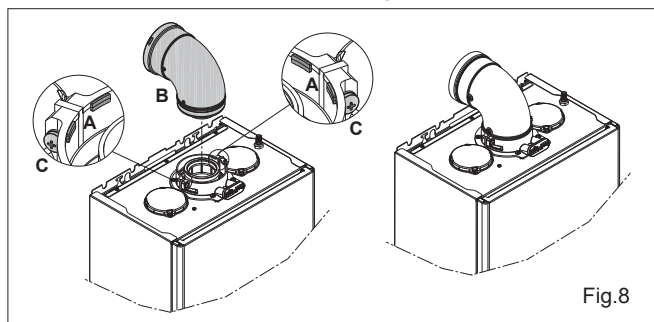
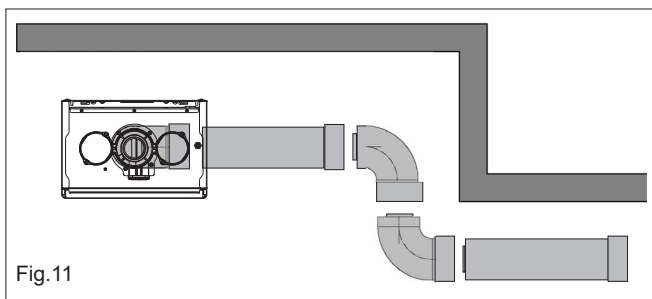

Fig.8
Fig. 11
NOTE (Fig.8): The appliance incorporates a 'click-fit' flue connection. Ensure that both screws 'C' on the 'click-fit' have been slackened off. Ensure that the connector is correctly aligned with the 'click-fit' and insert it into the 'click-fit' until it clicks into position (this is when the tabs at points 'A' are located in the groove of the flue bend connector). Both screws (C) should now be tightened.
Connect the bend – supplied with the terminal kit – to the top of the boiler (see Fig.8). The additional bends & extensions have push-fit connections, care should be taken to ensure that the correct seal is made when assembling the flue system. Connect the required number of flue extensions or bends (up to the maximum equivalent flue length) to the flue terminal (Fig.11). The flue system should have a 3° rise from the boiler to outside, to ensure any condense fluid that forms, is allowed to drain back to the appliance.
When cutting an extension to the required length, you must ensure that the excess is cut from the plain end of the extension (Fig.11). Remove any burrs, and check that all seals are located properly. You must ensure that the entire flue system is properly supported and connected. Seal the flue assembly to the wall using cement or a suitable alternative that will provide satisfactory weatherproofing. The interior and exterior trim can now be fitted.